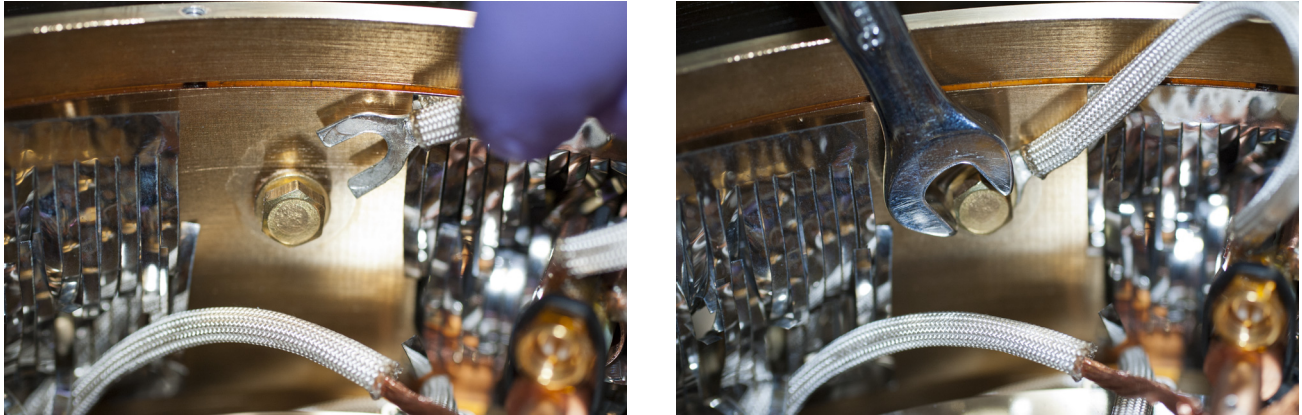

FIGURE 5-5 Left: Slide the spade lug under the hex screw head and washer; Right: Tighten the hex screw
- b. Slide the spade lug under the hex screw head and washer (FIGURE 5-5).
- c. Using the 8 mm wrench, tighten the hex screw (FIGURE 5-5).